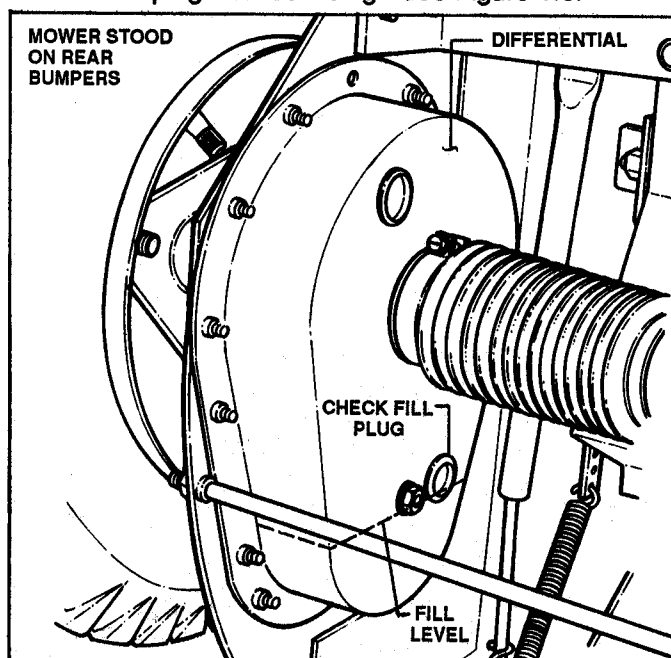

FIGURE 1.6
- J. DIFFERENTIAL: After standing mower on rear bumpers, remove plug from differential housing and check level of grease. Add **SNAPPER 0** grease as needed to bring level up to bottom edge of hole. Install new plug after servicing. See Figure 1.6.